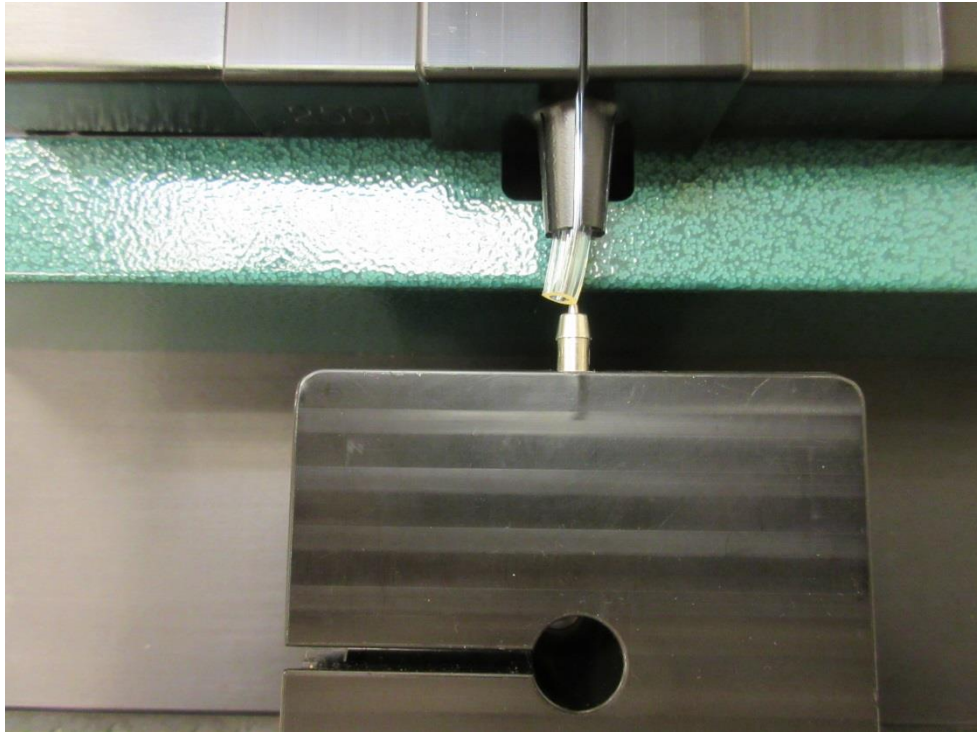

Figure 26: Too much curl in the tubing
- Allowing too much tubing to stick out of the jaws can cause a misalignment, due to the curl. (Figure 26)